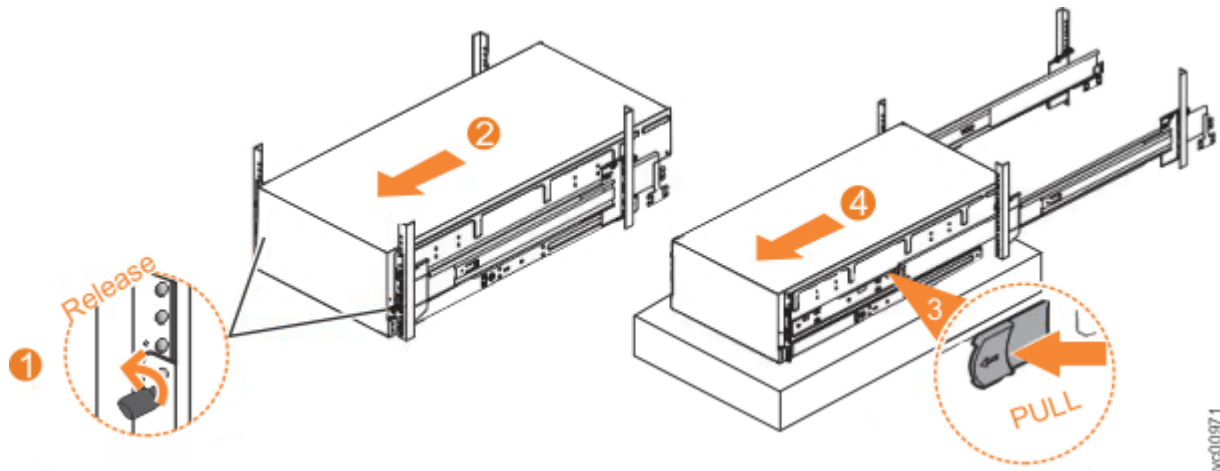

Figure 98. Removing the 5U expansion enclosure from the rack
1. Loosen the locking thumb screws (1) on the front of the enclosure, as shown in Figure 98 on page 153.
2. Carefully slide the enclosure forward out of the rack (2), as shown in Figure 98 on page 153.
3. Locate the left and right blue release tabs near the front of the enclosure. Pull both release tabs forward to unlock the drawer mechanism (3) in Figure 98 on page 153).
4. Slide the enclosure and inner rail member out of the rack (4) in Figure 98 on page 153).